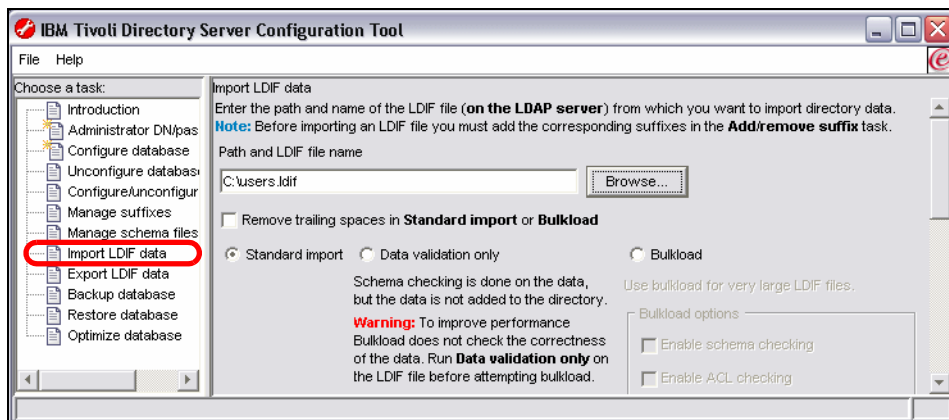

Figure A-46 Directory Server Configuration: Import users
- ▶ In the left pane, select *Import LDIF data* to import predefined groups and users (Figure A-46):